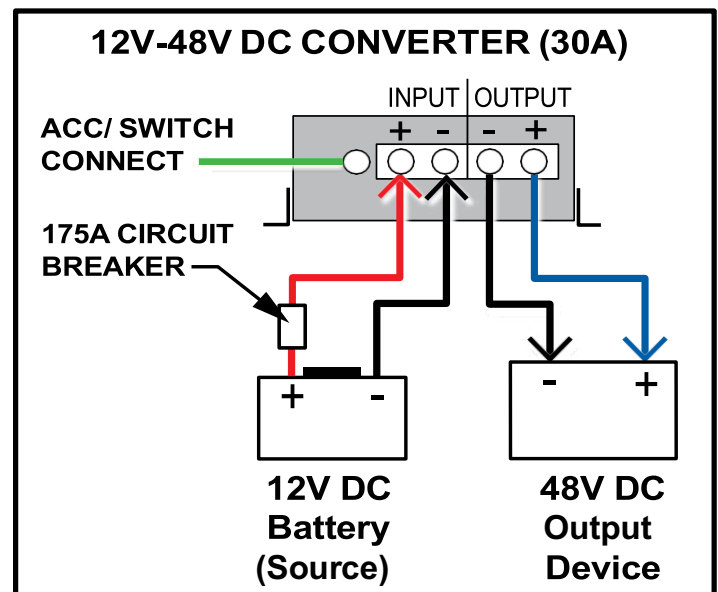

Figure 1-8
8. For manual wiring the connections refer to the following steps. (*See Figure 1-8*)
- An optional connector for ACC (ignition accessory) or other switch is available to add ON/OFF capability to the converter. (See *Figure 1-8*)